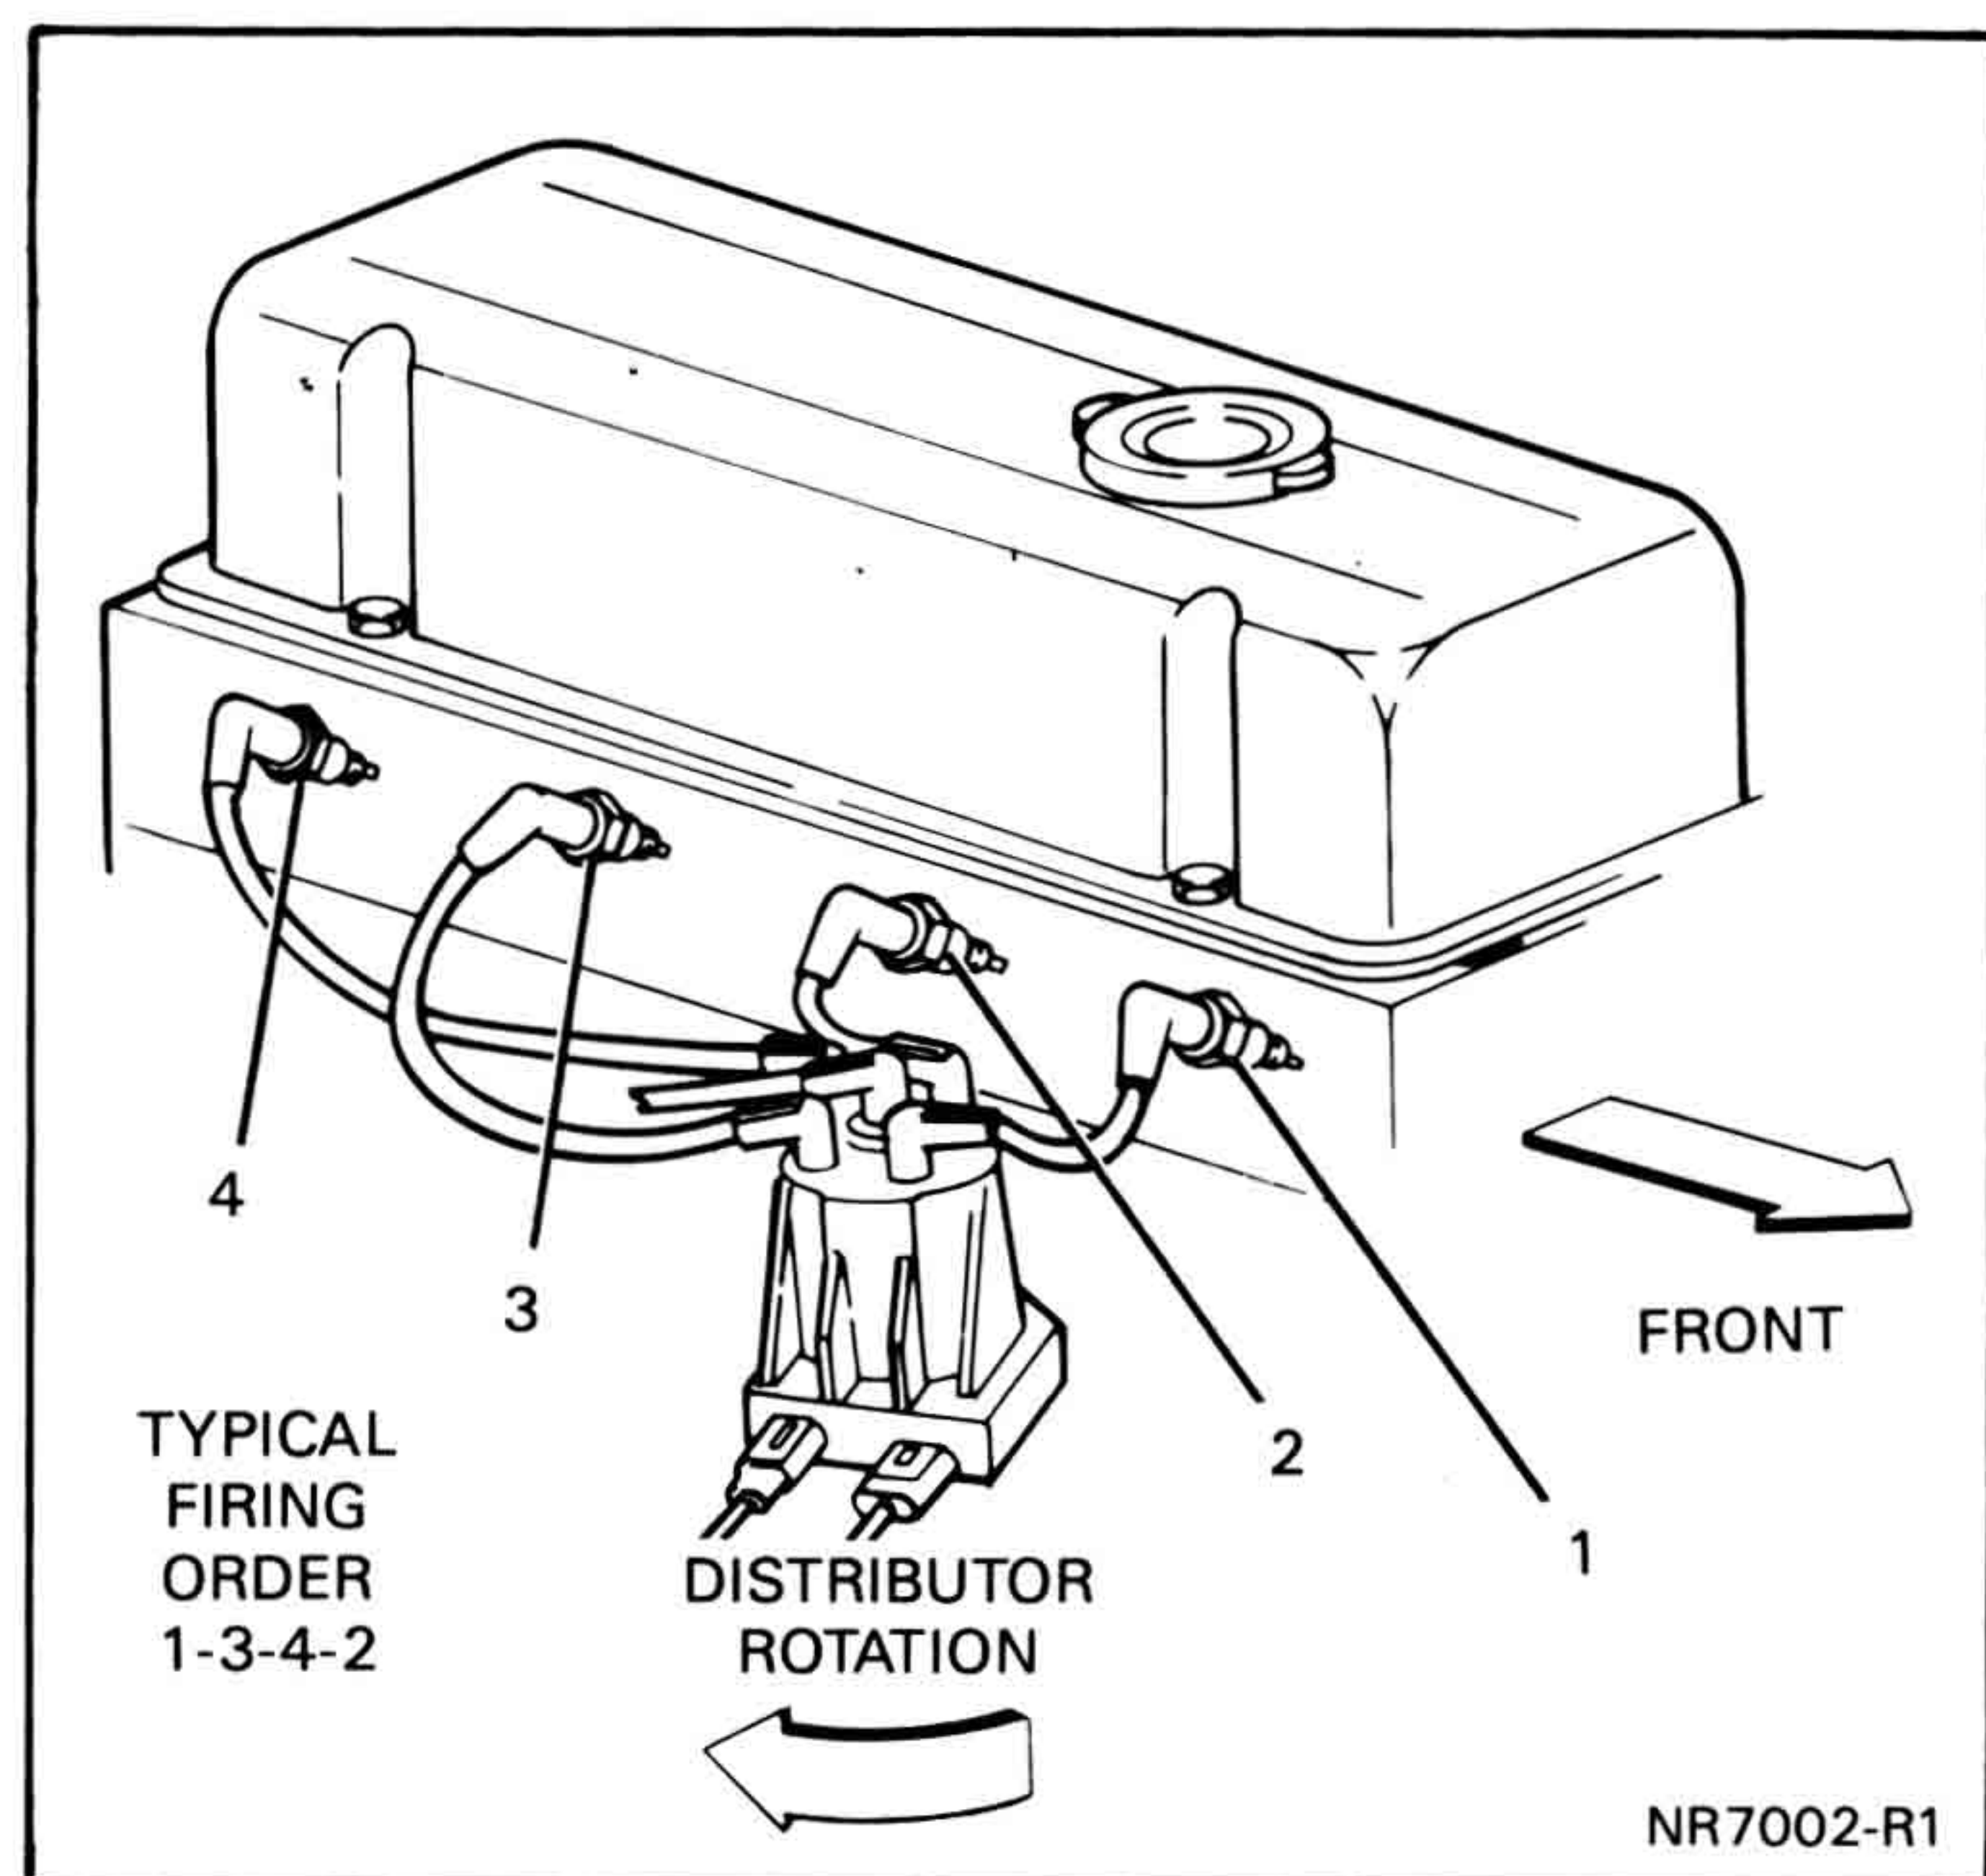

Figure 2 — Typical 4-Cylinder Firing Order (Single Engine)
Figures 2 and 3
3. Note location and firing order of old spark plug leads relative to #1 spark plug tower on distributor cap (see figure 2). Using a twist-and-lift motion to unseat the connectors, remove the old spark plug and coil secondary leads from the engine (see figure 3). Retain any wire looms for later routing of new leads.